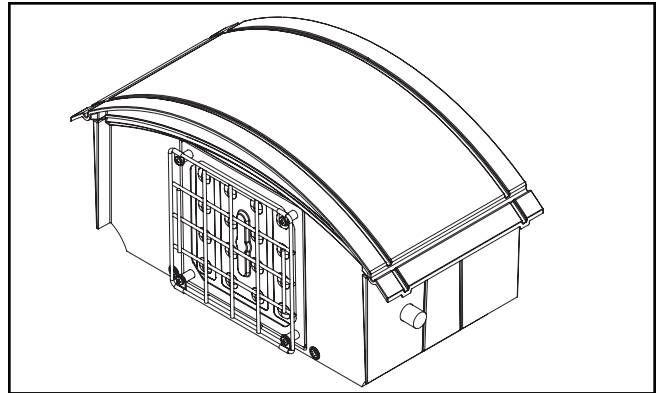

Figure 4a.
3. Align and secure wire guard to luminaire with 4 provided screws. (Figure 4a.)